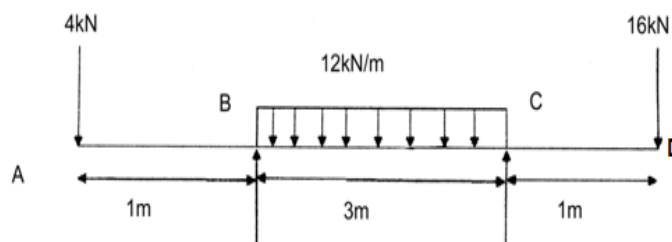

Fig.2
- 9) Draw Shear Force and Bending Moment diagram for the Fig.2